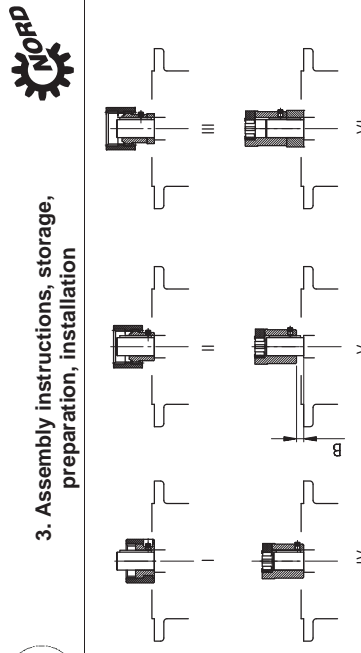

Figure 3-13: Fitting the coupling onto the motor shaft - various types of coupling
- Tighten the coupling sleeve on the motor shaft in accordance with the motor manufacturer's instructions until it touches the collar. With motor sizes 90, 160, 180 and 225, any spacer bushes must be positioned between the coupling sleeve and the collar. With standard helical gear units, dimension B between the coupling sleeve and the collar must be observed (see Figure 3-13). Certain **NEMA adapters** require the adjustment of the coupling in accordance with the specifications indicated on the adhesive plate.
- Mount the motor to the IEC /NEMA adapter, do not forget to fit the gear rim or the sleeve. (See Figure 3-13)